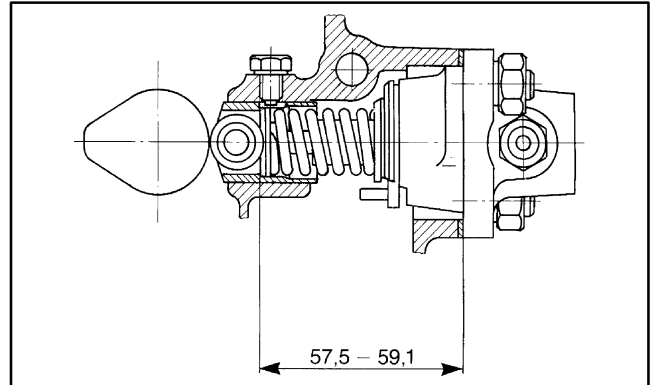

Figure 5-13 Acceptable Distance
2. Measure the distance between the parts and add the shim thickness. Total distance should be between 57.5–59.1 mm (2.263–2.327 in.). See Figure 5-13.